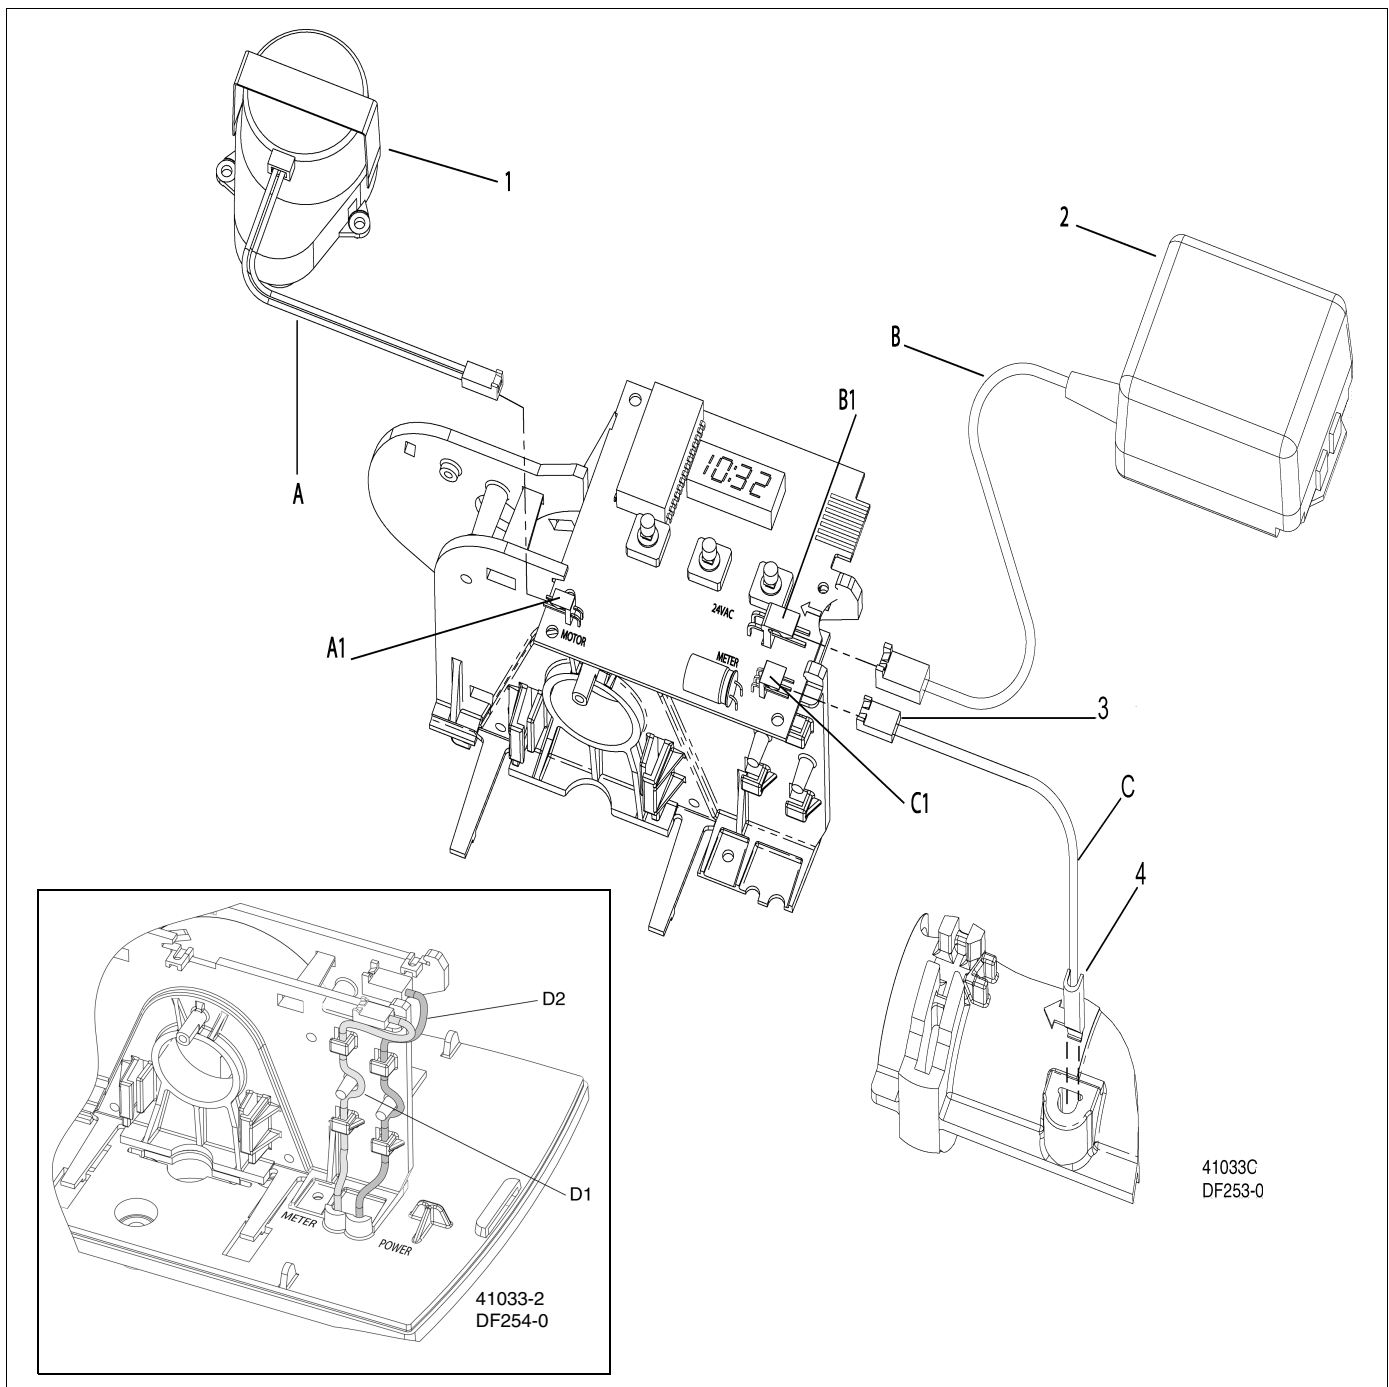

Figure 29: Connecting the Circuit Board
1. Connect the motor wires (A) to the motor connector (A1) on board.
2. Connect the transformer cable (B) to the transformer connector (B1) on board.
3. Connect the meter cable (C) to the meter cable connector (C1) on board.
5. Thread meter cable (D1) and power wire (D2) along path shown in **Figure 29**.